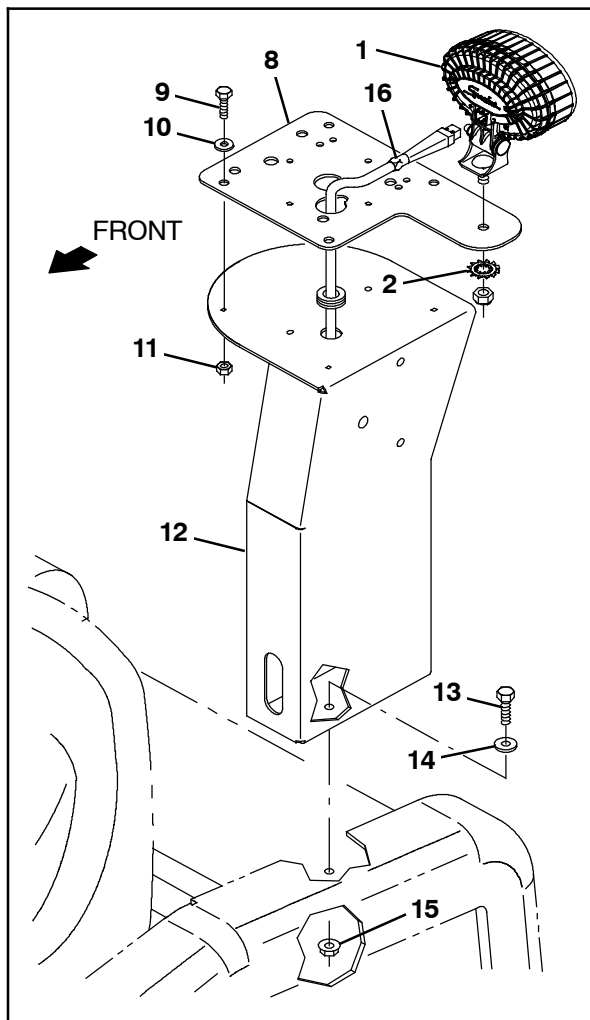

**FIG. 12**
18. Disconnect the harness from the flashing light and/or backup alarm. (Fig. 12)
19. Remove the light guard/flashing light, and/or the backup alarm from the pedestal. Set the light guard/flashing light, and/or the backup alarm and all mounting hardware aside. (Fig. 12)
20. Remove the pedestal from the filter box assembly. Discard the pedestal and mounting hardware. (Fig. 12)
**24. Machines equipped with strobe light and/or backup alarm option only:** Install these items previously removed from the removed pedestal onto the pedestal (12). (Fig. 12/Fig. 13)